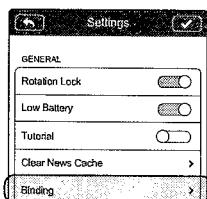
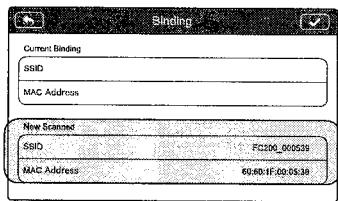
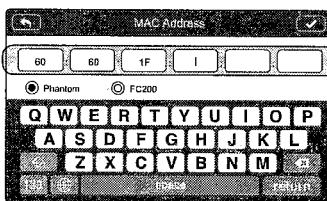

Figure 36
Figure 38
Figure 39
- (1) Power on the camera and Range Extender.
- (2) Approximately 30 seconds later, press the Binding Reset Button on the Range Extender with a pin until the SYSTEM Indicator turns off. The Range Extender will then restart automatically.
- (3) Approximately 30 seconds later, the SYSTEM Indicator will start to blink green, indicating that the Range Extender is ready for binding.
- (4) Enable Wi-Fi on your mobile device then select "Phantom\_XXXXXX" the (SSID of your Range Extender) from the Wi-Fi network list.
- (5) Run the DJI VISION App then tap -> Settings -> General -> Binding (Figure 36). Select 'Scan QR Code' to scan the camera QR code on the bottom of aircraft (Figure 37). Get the camera SSID (E.g. FC200\_xxxxx) and the MAC address (Figure 38). You can also skip the scan and enter the camera MAC address directly (Figure 39). The MAC address can be found on the camera label.
- (6) Tap the tick  in the top right corner. The Range Extender should automatically restart. Binding is now complete.